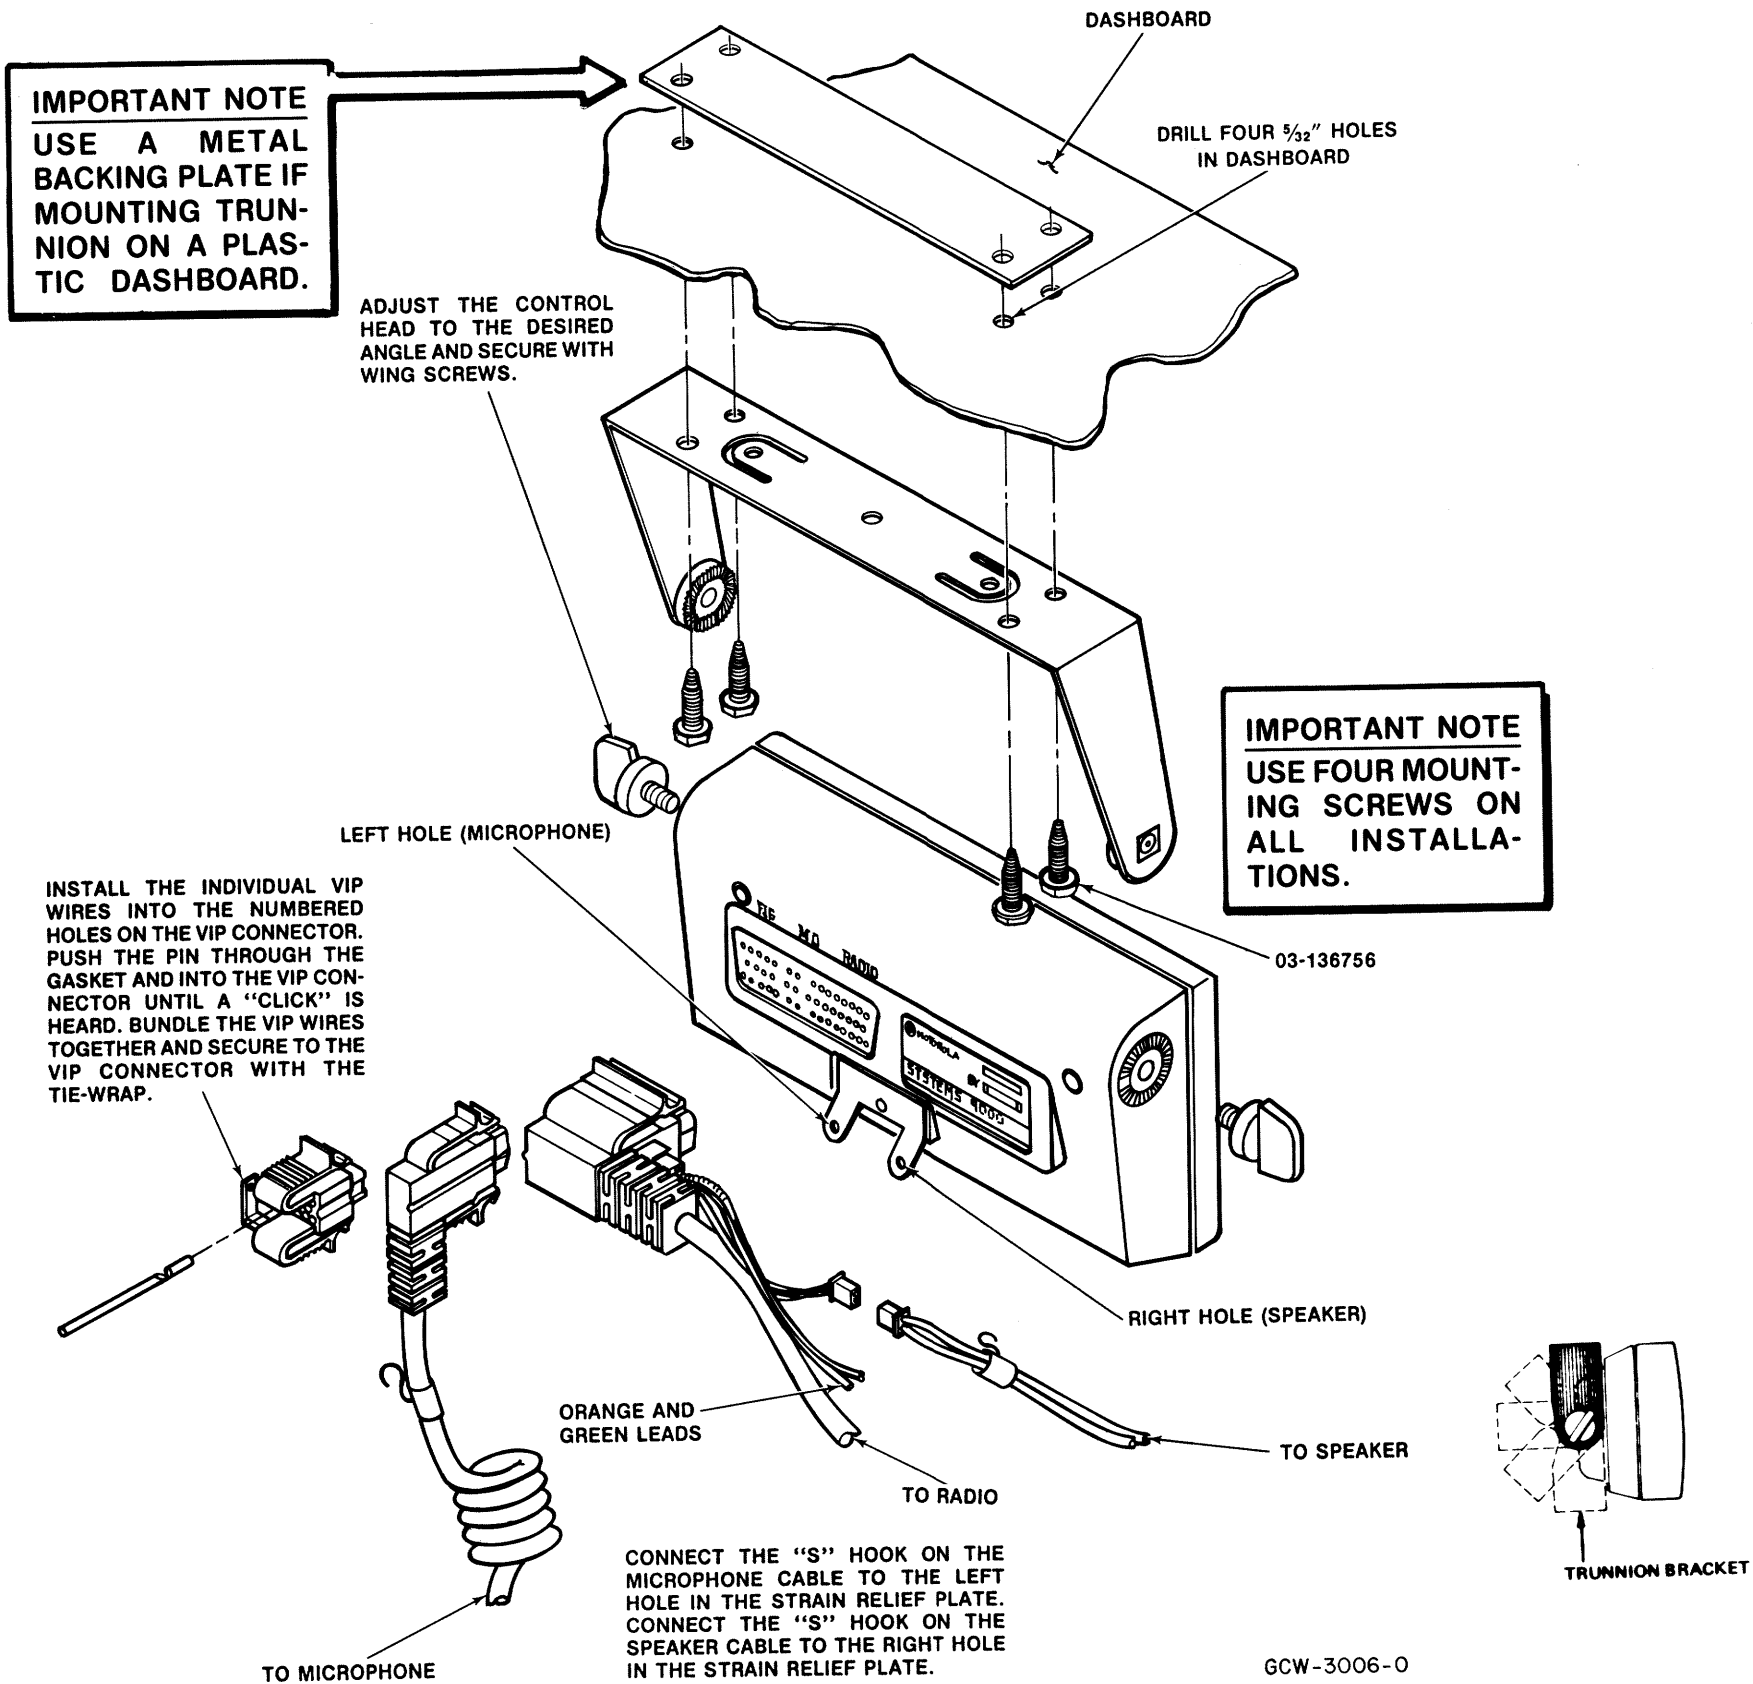

Figure 5. Control Head Installation Exploded View
(1) Mark the mounting location (see Figure 5) using the selected trunnion bracket as a template; drill four $\frac{5}{32}$ " holes. If mounting into a plastic surface, use a metal backing plate.
(2) Attach the trunnion bracket using *all* four #10-16 \times $\frac{5}{8}$ " self-tapping screws supplied in the mounting kit.
(3) Plug in the radio cable connector and microphone cable connector in the proper location on the back of the control unit (see Figure 5). A "click" sounds when the connector snaps into place. Now connect the microphone cable "S" hook into the hole in the cable strain relief bracket on the back of the control unit.
(4) Plug in the Vehicle Interface Port (VIP) connector (see Figure 5) into the remaining location on the back of the control unit.
(5) Install the control unit to the trunnion bracket using the two wing screws. Rotate the control unit to the desired vertical position and tighten the wing screws.
The function of these VIP outputs can be defined by field programming the control unit. Typical applications for VIP outputs are external horn/lights alarm and horn ring transfer relay control. For further information on VIP outputs, see the control unit programming manual. For information on installing relay connectors in the VIP connector, see Figure 5.
The function of the VIP inputs can be defined by field programming the control unit. Typical applications for the VIP inputs are for a foot switch of a horn ring switch. For further information on VIP inputs, see the control unit programming manual. For information on installing switch connectors into the VIP connector (see Figure 5).